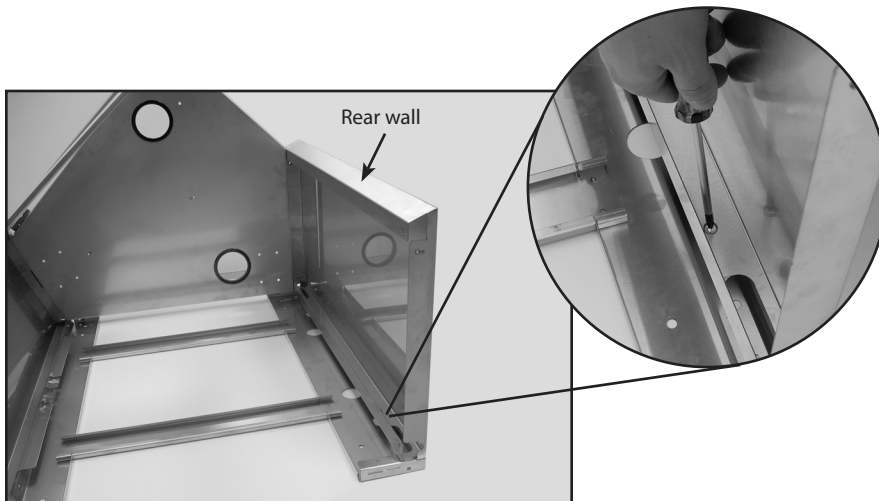

Fig. 05
3. Tilt the entire Bend Unit on its side, with the rear wall nearest the ground. Remove the screws that hold the rear wall to the sidewall and the floor panel of the Bend Unit (Fig. 05 and 06). The rear wall can now be separated from the Bend Unit and placed off to the side.